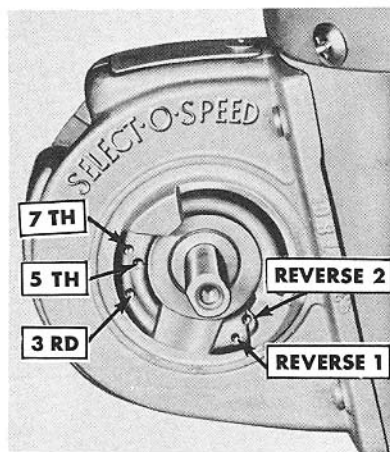

Figure 11
To move the selector lever to the opposite side of the shifter mechanism, take off both covers, Figure 3, by removing the Phillips head screw as shown at (1), Figure 11. Remove the selector lever from the shaft and position it on the shaft on the opposite side of the shifter mechanism. Switch the covers and reinstall with the Phillips head screws. Tighten securely.
Selector Lever Stops: Installation of the selector lever position stops enables the operator to establish a pre-determined shift pattern between two gears. These stops are especially convenient for loader and other material handling operations. The speed stop screws can be positioned in any two of the gears 3, 5, 7, R₁, or R₂, by inserting them in the holes provided as shown in Figure 11. These stops can be over-ridden to obtain any gear by pulling outward on the spring loaded selector lever and shifting to the desired gear. When selector stops are not desired, the stop screws should be placed in the holes on the side opposite the selector lever. Tractors will be shipped from the factory with the stop screws in this location.